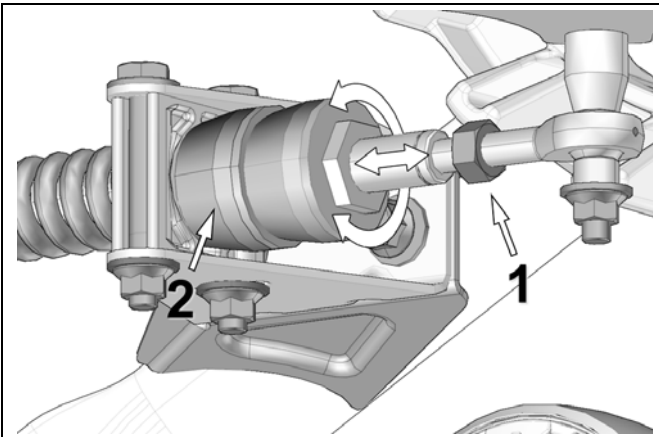

Figure 11
- Loosen jam nut (1). Rotate the stabilizing arm to adjust length of rod end so that no pressure is applied to the rubber cone. (2). Refer to Figure 11.